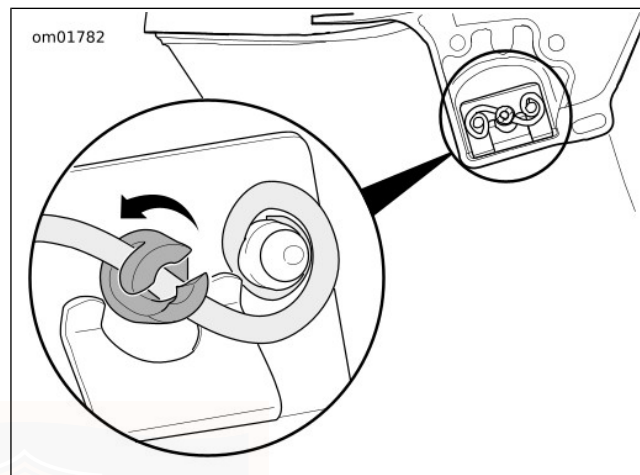

Figure 60. Mounting Stud Installation (cutaway view)
3. See Figure 60. Push in the mounting studs and rotate a quarter turn clockwise to engage the wireform latch.